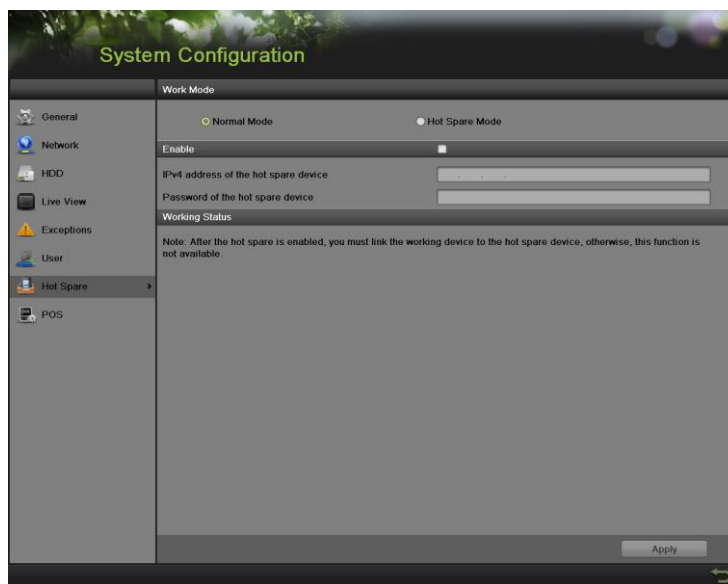

Figure 142 Hot Spare Configuration Menu
1. Enter the Hot Spare Configuration menu by going to Menu > System Configuration > Hot Spare (as shown in **Figure 142**).